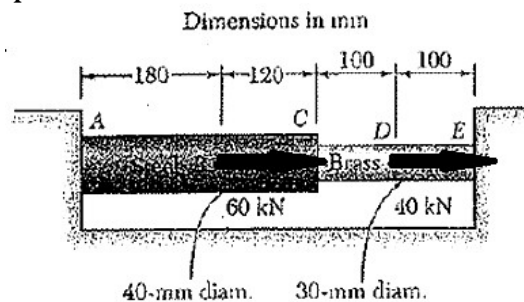

Fig.2
3. (a) Two cylindrical rods, one of steel and other of brass, are joined at C and restrained by rigid supports at A and E. For the loading shown in Fig 2. and knowing $E_s = 200 \text{ GPa}$ and $E_b = 105 \text{ GPa}$, determine (i) the reactions at A and E (ii) the deflection of point C.